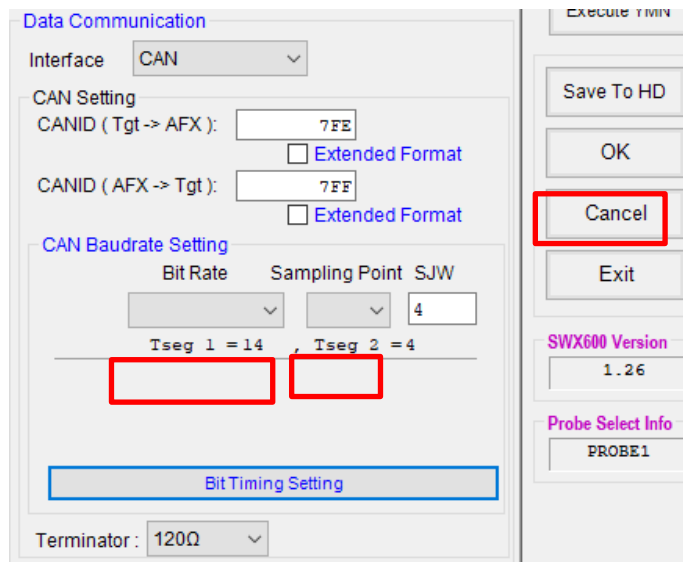

Figure 3.
4. If returning to default settings, select "Bit Rate" → "Sampling Point" again and press OK button (Figure 3 red frame).